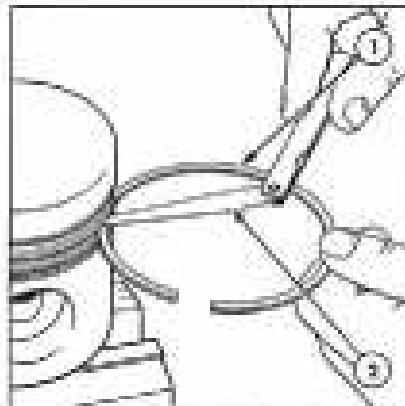

Fig. C2.16 Checking the Land Clearance
4. Check the land clearances of the rings by using a feeler gauge as shown in the fig. C2.16